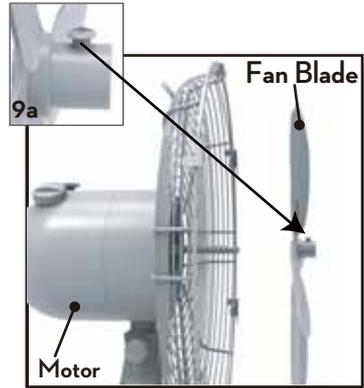

Figure 9
4. Loosen the screw on the front of the blade assembly. Figure 9a. Slide the blade assembly onto the motor shaft. Figure 9.